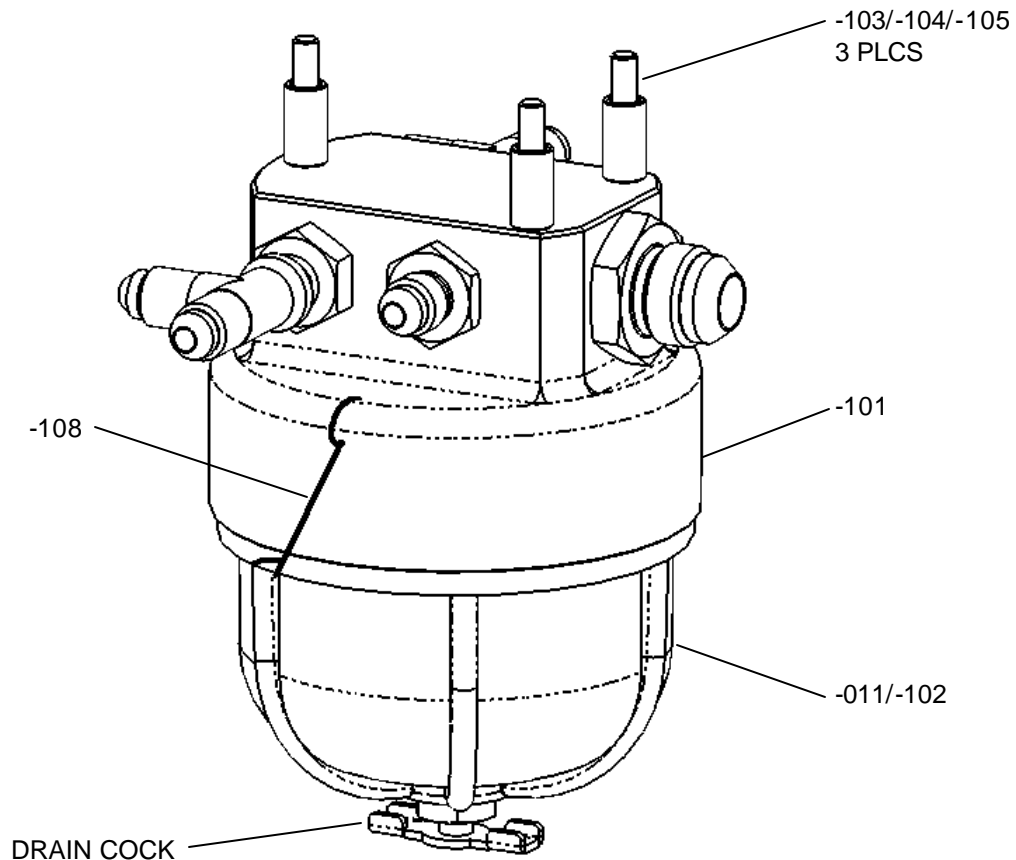

Figure 2
4. Install Reservoir Housing, Reservoir Bowl Assy, -011, and hardware as shown. Reference Figure 2.
5. Secure Reservoir Bowl Assy to Reservoir Housing with lockwire, -108, as shown. Reference Figure 2.